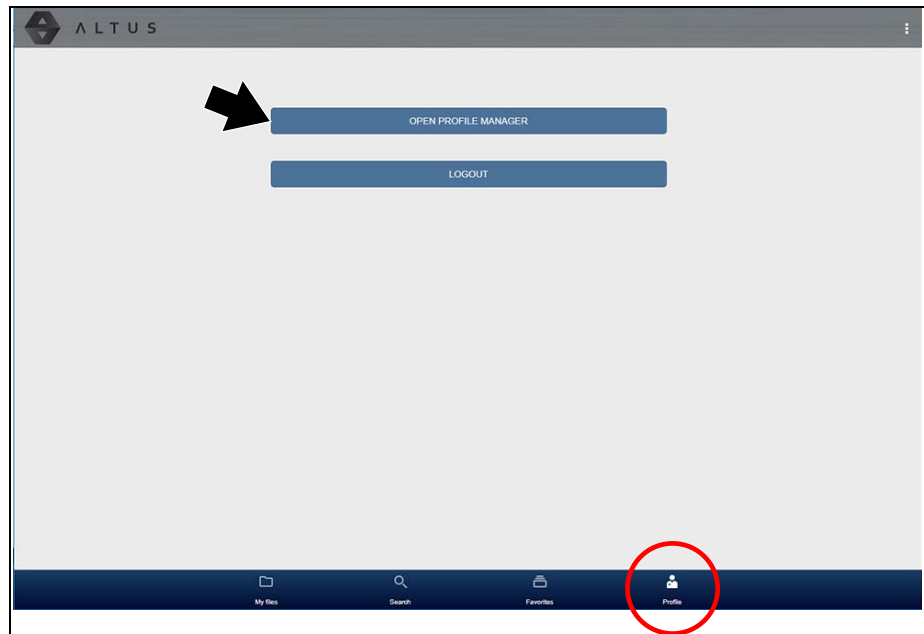

Figure 10-16
- Open Profile Manager (Figure 10-16), see Using Profile Manager, on page 89,
1. To open the Profile Manager screen, select **Profile** from lower toolbar, then select **Open Profile Manager** (Figure 10-16).